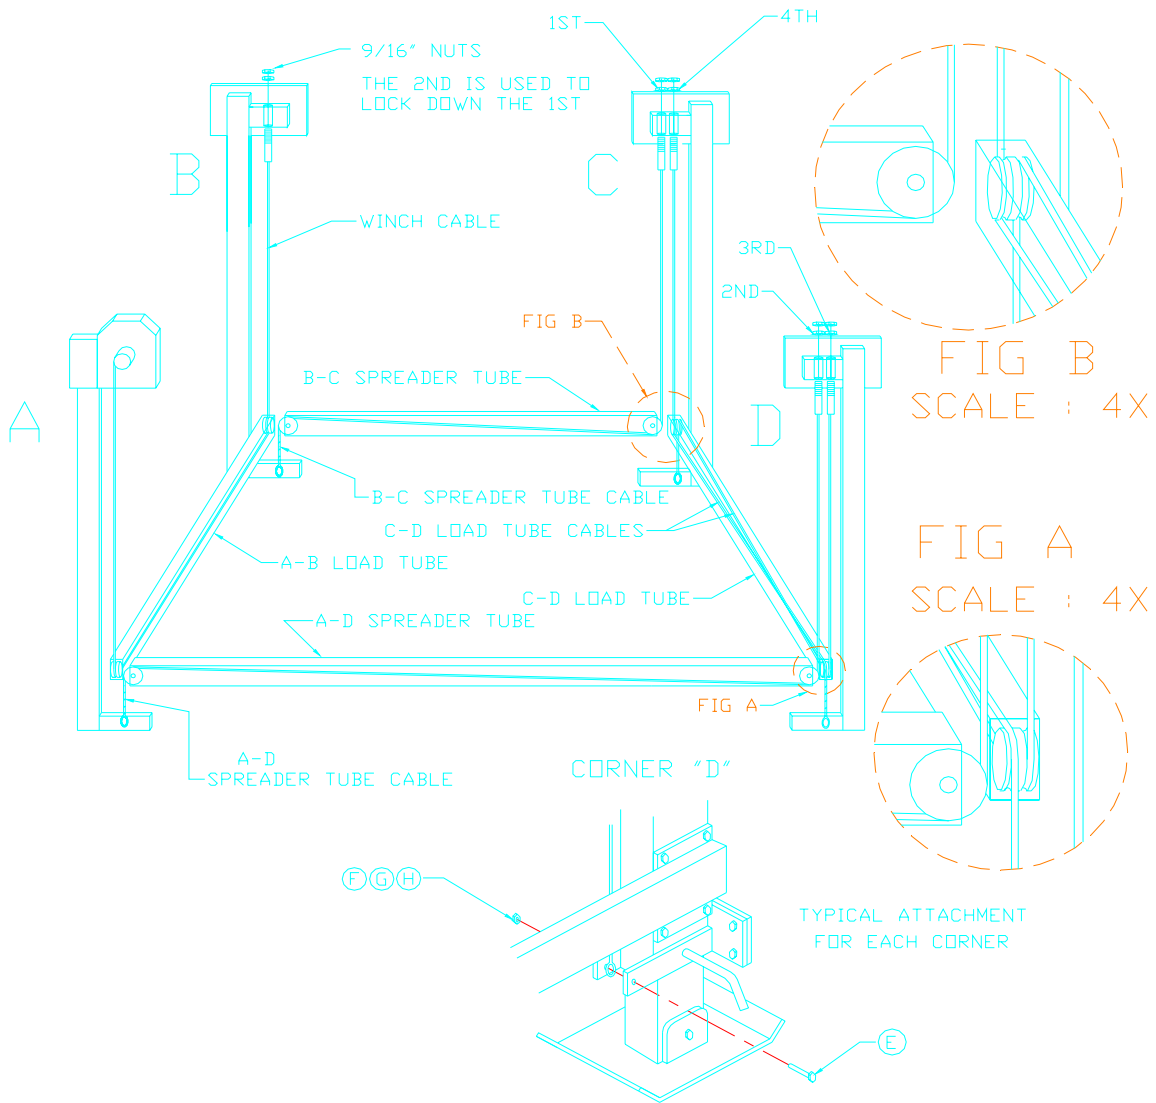

Figure 3-8
2. Refer to Figure 3-8. The load and spreader tubes are already reeved. Fasten the cable end loops to the bracket provided at the bottom of each of the four vertical legs.
3. Using a 7/8” open-end wrench, tighten the cable studs opposite the cable end loops in the following order. The following step numbers correspond to the step numbers shown in Figure 3-8.
7. Refer to Figure 3-8. Tighten down the nut to fasten the A-B load tube cable stud to leg B. Add and tighten a jam nut to the cable nut to lock the position.